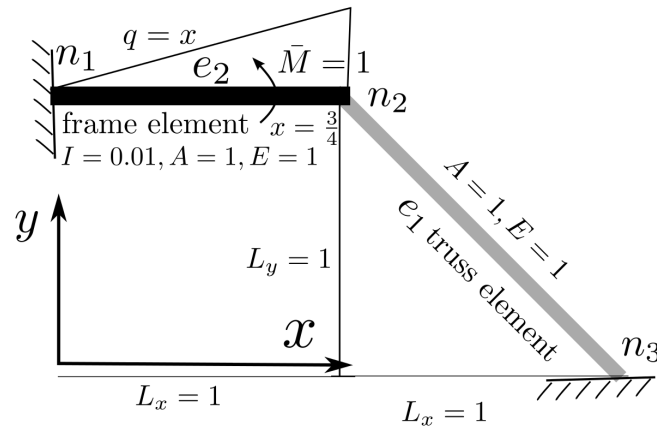

Figure 2: Frame and truss example.
- Form element force vectors and stiffness matrices. Note that for element e_2 two different coordinate systems are used at the two ends and an equation of the form (394) in section 2.3 should be employed. Also, the angle θ in the figure is the angle that the bar makes with x axis and is different from θ_1 and θ_2 in the figure used for equation (394). **(20 Points)**
- Obtain support reactions at B (2), C (1), and D (2). **(20 Points)**
- In figure 2 **Frame element** e_2 is hinged to **truss element** e_1 . For the frame element, a concentrated moment $\bar{M} = 1$ is applied at $x = 0.75$ and a distributed load $q = x$ is applied over the length of the frame.